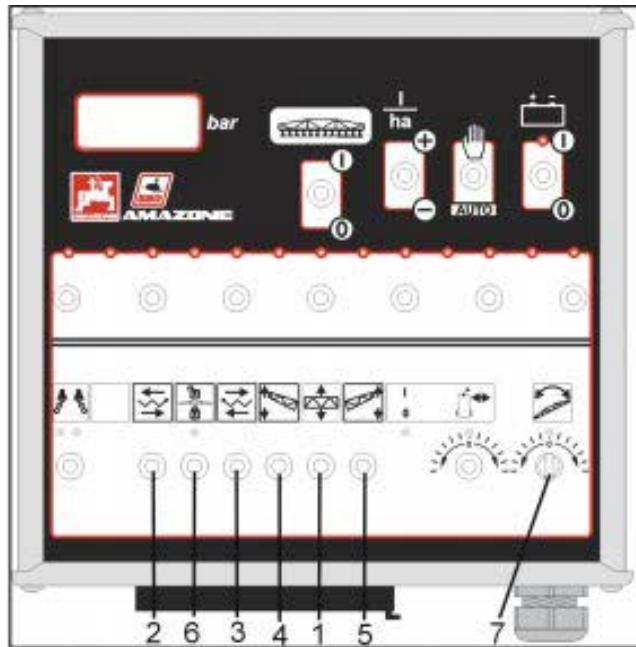

Fig. 8.29
- Use the key (Fig. 8.29/1) to lock the folded boom pack in transport position via the automatic transport locking device.